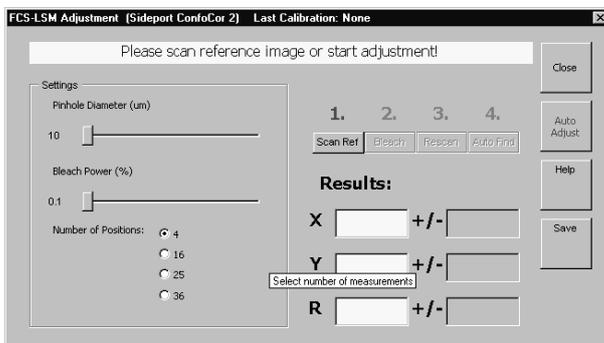

Fig. 4-98 The Macro "Fcs-Lsm" display before offset compensation
- Once **Ok** was chosen, the **Lsm-Fcs** macro window will be displayed (see Fig. 4-98).